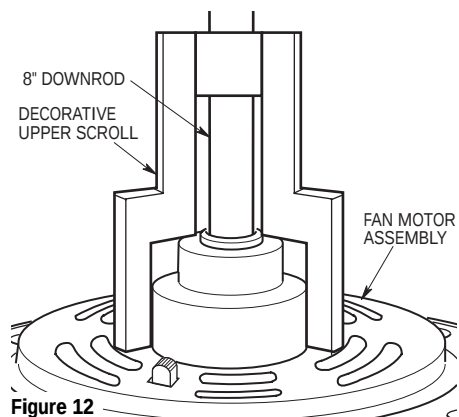

Figure 12
- **14. For Use With The 8" Downrod Only:** Position the decorative upper scroll over the downrod. Slide scroll down onto the downrod until it rests on the fan motor assembly (Figure 12).